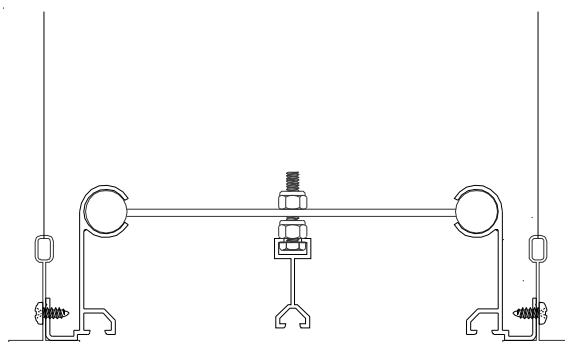

Figure 9
**STEP 14.** Insert the bolt through the centering bar, and attach the centering bar to the subchannel using one of the jamb nuts provided by the factory (see Figure 9). Ensure that the centering bar maintains the proper position. Repeat this procedure for each subsequent centering bar in this section of the joint cover system.